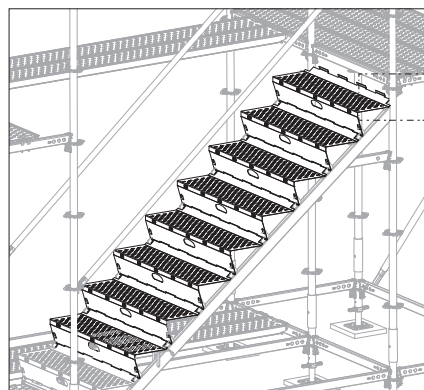
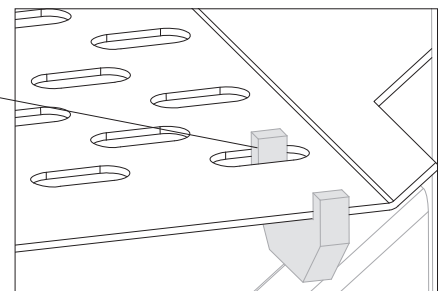

Fig. A2.10a
Fig. A2.10b
3. Repeat procedure up to the last step. The uppermost support has a different design. (Fig. A2.10a + Fig. A2.10b)